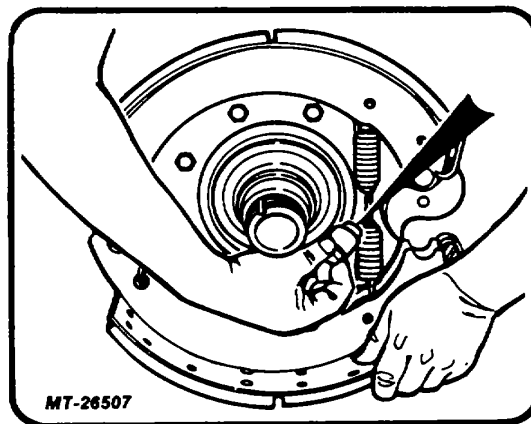

Fig. 11 Removing Lower Cam Roller
1. Disconnect lower and upper Cam roller retainers (Fig. 11).